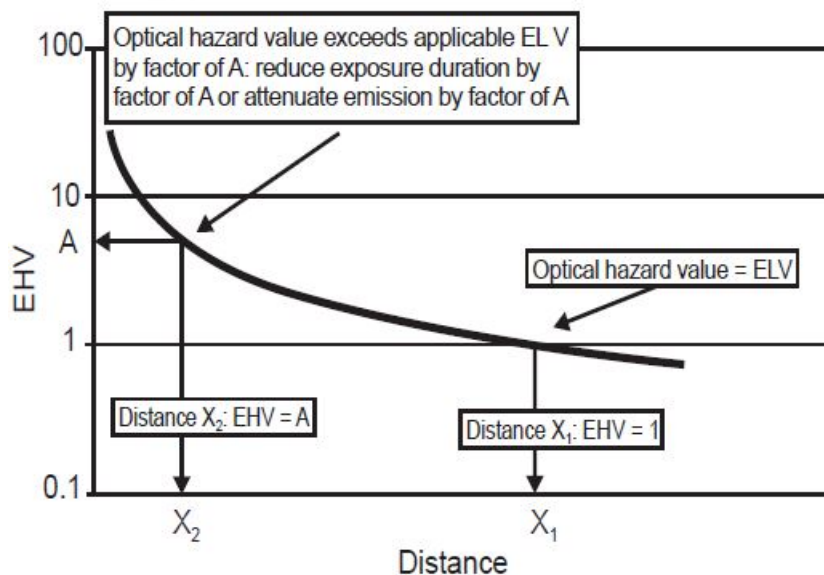

Figure 1 – Example of graphic presentation of distant dependent emission hazard values
With increasing distance from a lamp the applicable hazard values decrease – see Figure 1. At the distance  $X_1$ ,  $EHV = 1$ , i.e. the EHV equals the applicable emission limit value. Distance  $X_1$  is the hazard distance (HD) for this lamp system. At distance  $X_2$ , the optical radiation hazard value exceeds the applicable emission limit value by a factor of  $A$ . At this distance, excessive exposure to optical radiation may be reduced either by restricting exposure time by a factor of  $A$  (if the emission limit values are expressed in terms of radiant exposure or time integrated radiance), or by using engineering controls (such as filters) which attenuate the accessible emission and/or personal protective means (such as eyewear, clothing) which would limit the potential exposure to the emitted energy.